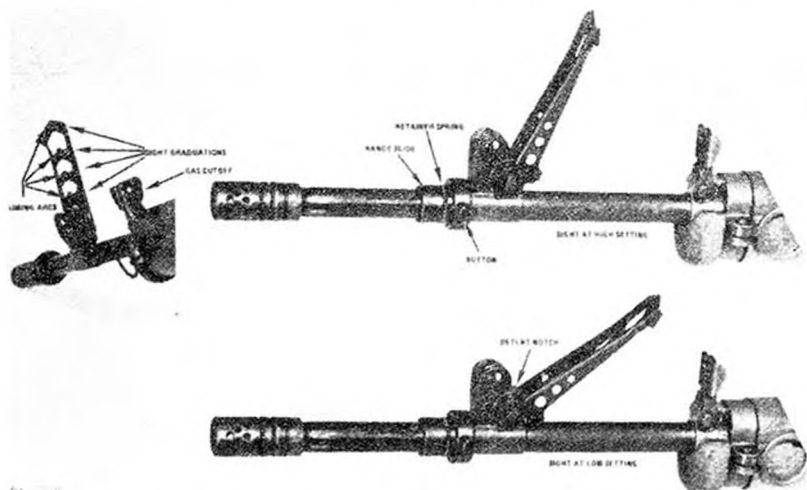

Figure 117. M.A.S. 49/56 grenade launcher and sight.
(2) If the rifle is a Model 49/56, slide the grenade over the launcher and seat it fully onto the range slide (fig 116). The retainer spring on the range slide prevents the grenade from slipping off the rifle. Press the button (fig 117) on the range slide and move the slide back or forth on the barrel until the rear edge of the range slide aligns with the number corresponding to the
proper range (to 200 meters). Erect the sight to its highest point (fig 117) and use the open sight to align the grenade on target. This sight and range technique is used only for indirect fire with antipersonnel grenades. For antitank grenades or direct fire, move the range slide back to the 20 graduation and, with the grenade sight in its highest position, align the appropriate arc on the sight with the grenade ogive (largest diameter) and target (fig 117). Once sighted, rotate the safety upward and press the trigger.